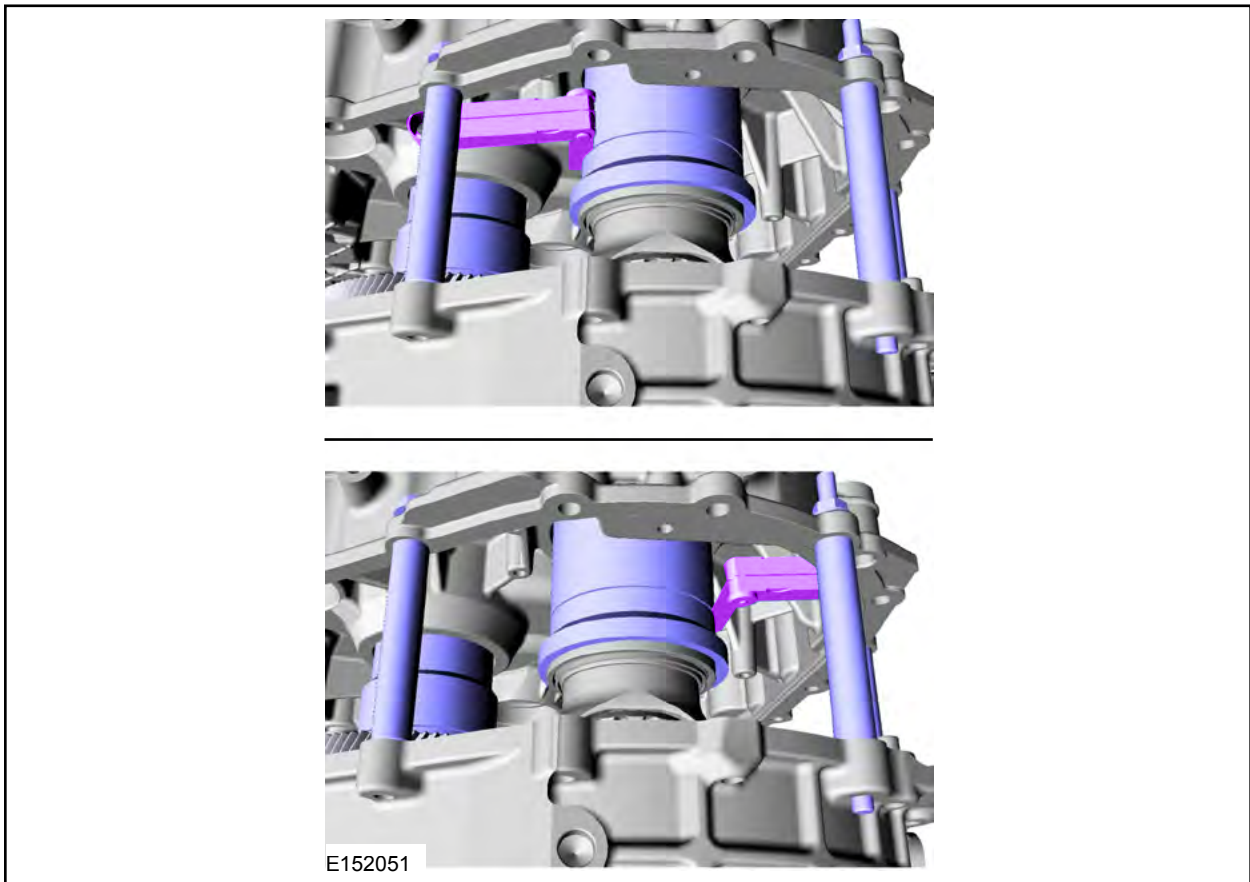

FIGURE 27
22. Using a feeler gauge, measure and record the smallest and largest preload gap on the 307-591/1 Shim Gauge, Differential/Transfer Gear Bearing. Average the two measurements to get the measurement needed when referring to the shim chart for proper shim selection. See Figure 27.